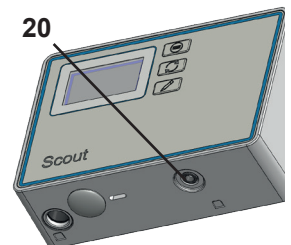

Fig. 8
- ⇒ Insert the connection cable of the sensor unit into the port on the programming and display unit (20, Fig. 8).
- ⇒ Press the connection cable into the cable guide (21) to prevent the connection plug from being unintentionally pulled out.